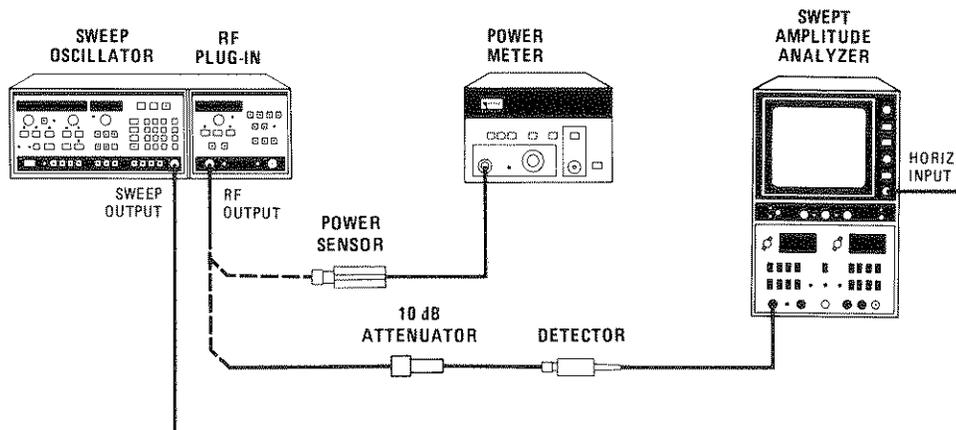

Figure 5-25. Power Calibration Test Setup
1. Connect equipment as shown in Figure 5-25, with the 8755C monitoring the RF output. Select 8350A  $\square$  MOD. Observe the full band (0.01 to 8.4 GHz) trace and select a Band 0 frequency (0.01 to 2.0 GHz) where the power level is approximately in the center of the power variation range. Select CW mode at that frequency. Set POWER for a front panel indication of +0 dBm.